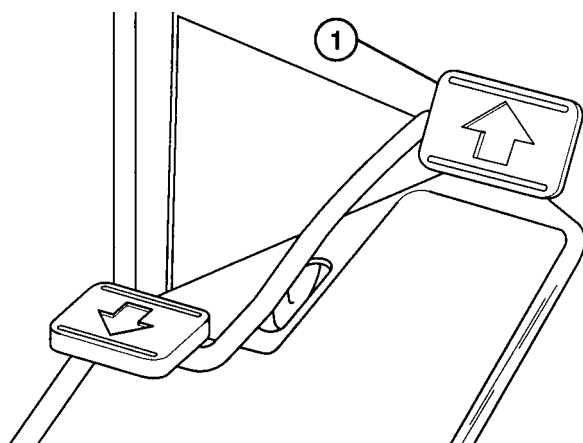
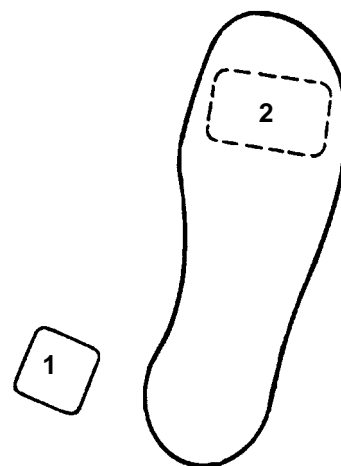

Figure 5
Figure 6
**Traction and Stopping Pedal** (Fig. 5–6)—The traction pedal has three functions: one, to make the machine move forward, two, to move it backward and three, to stop the machine. Using the heel and toe of the right foot, depress the top of the pedal to move forward and bottom of the pedal to move backward or to assist in stopping when moving forward. Allowing the pedal to move to the neutral position will stop the machine. **Do not rest your heel on reverse when operating forward (Fig. 6).**